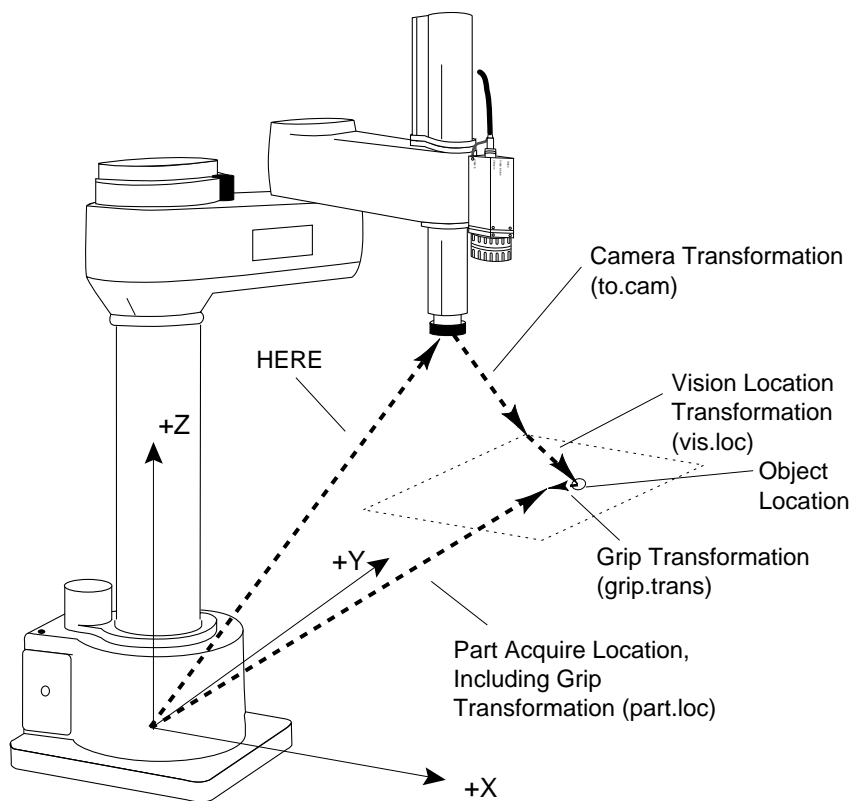

Figure 14-6. Final Part Acquire Location
**Figure 14-6** summarizes the transformations used when calculating the final part acquire location.